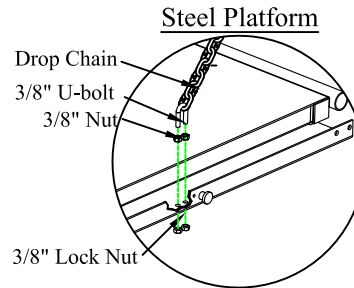

Figure 11: Platform drop chain.
3. **Install** the drop chains as shown in (Figure 11 or 12) if they are not already installed.